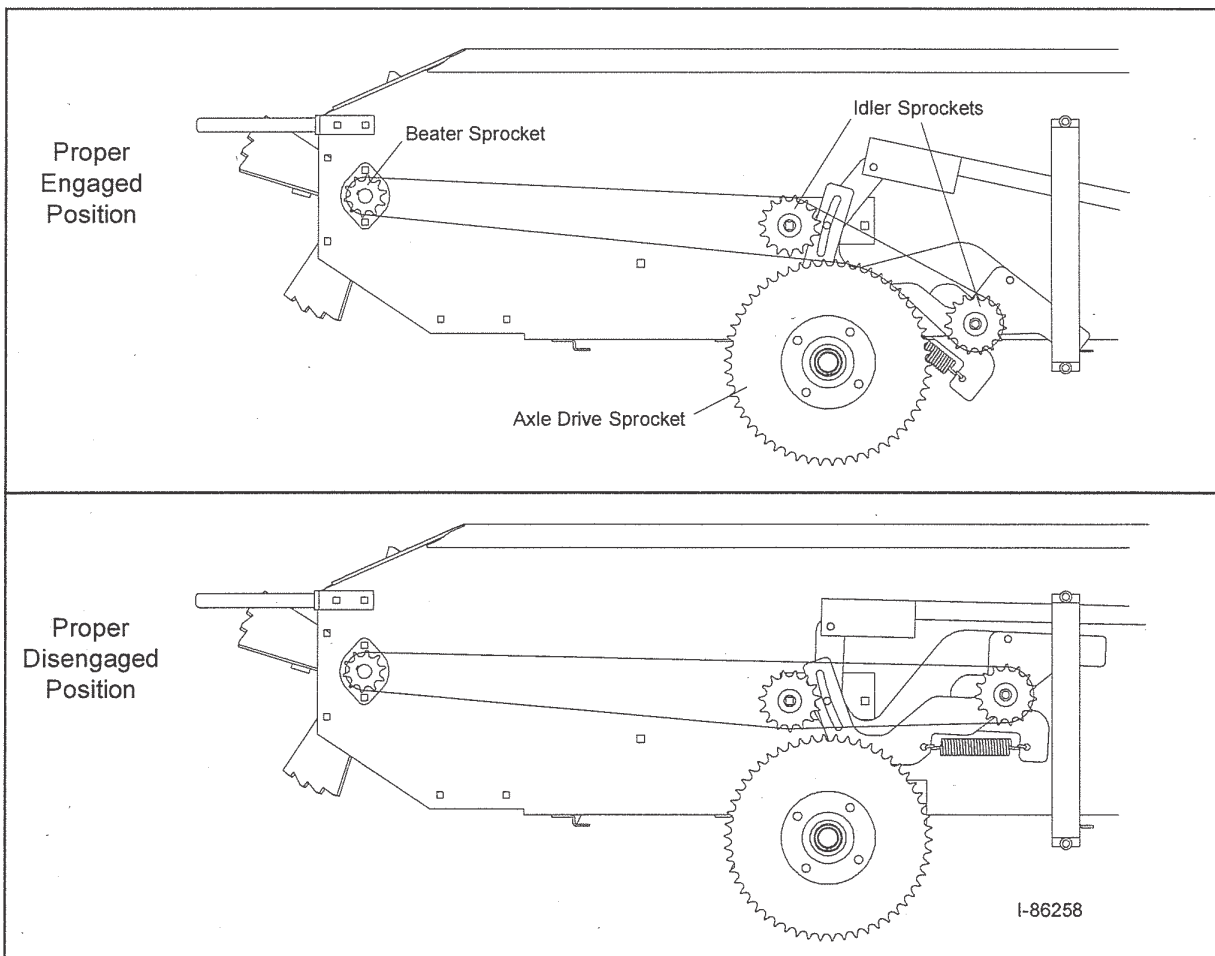

Figure 3D - Beater Drive Chain Installed in the Proper Position
3. Remove the right safety shield by removing the three (3) nuts holding the shield in place.
5. As shown in Figure 3D, re-install the chain around the small rear sprocket.
9. Verify that the chain is positioned properly over and around all sprockets as shown in Figure 3D.
10. Re-install the safety shield with the three (3) nuts to hold it in place.